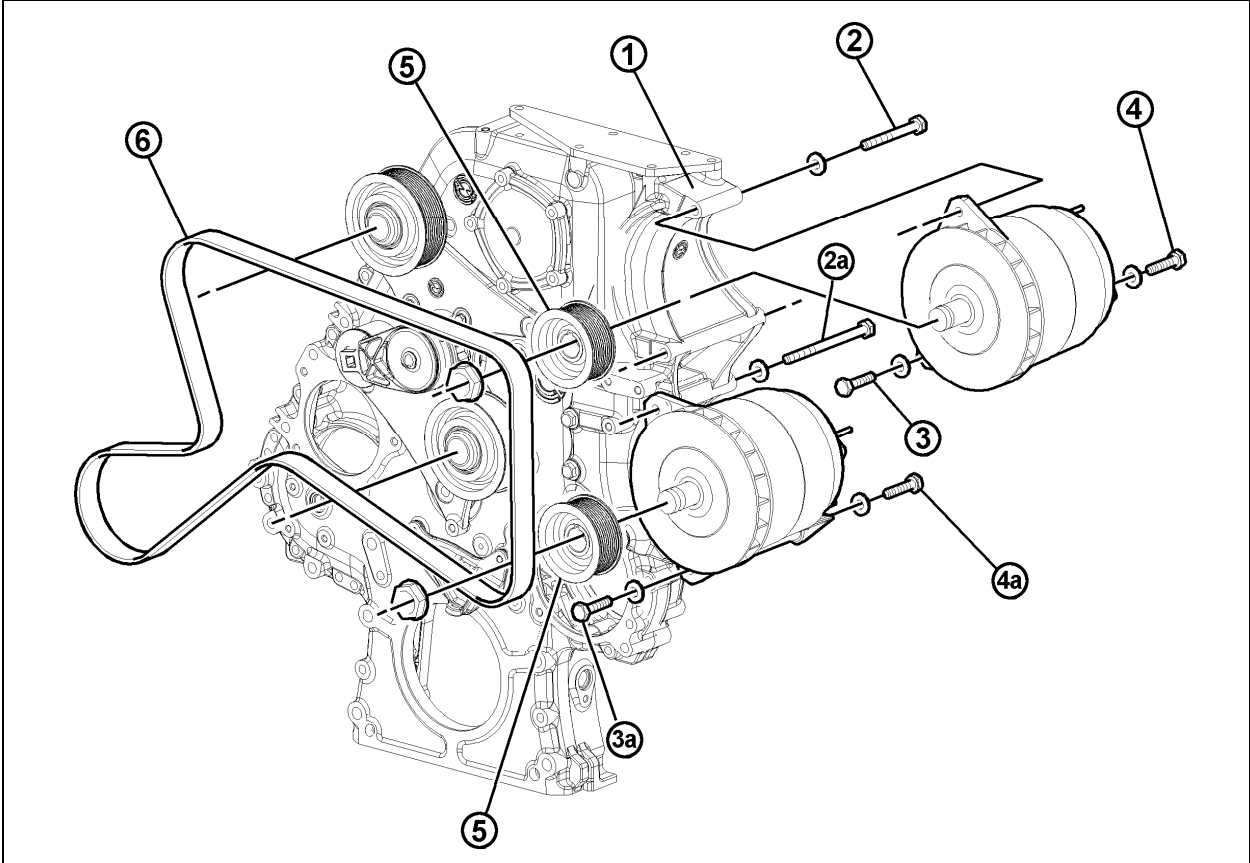
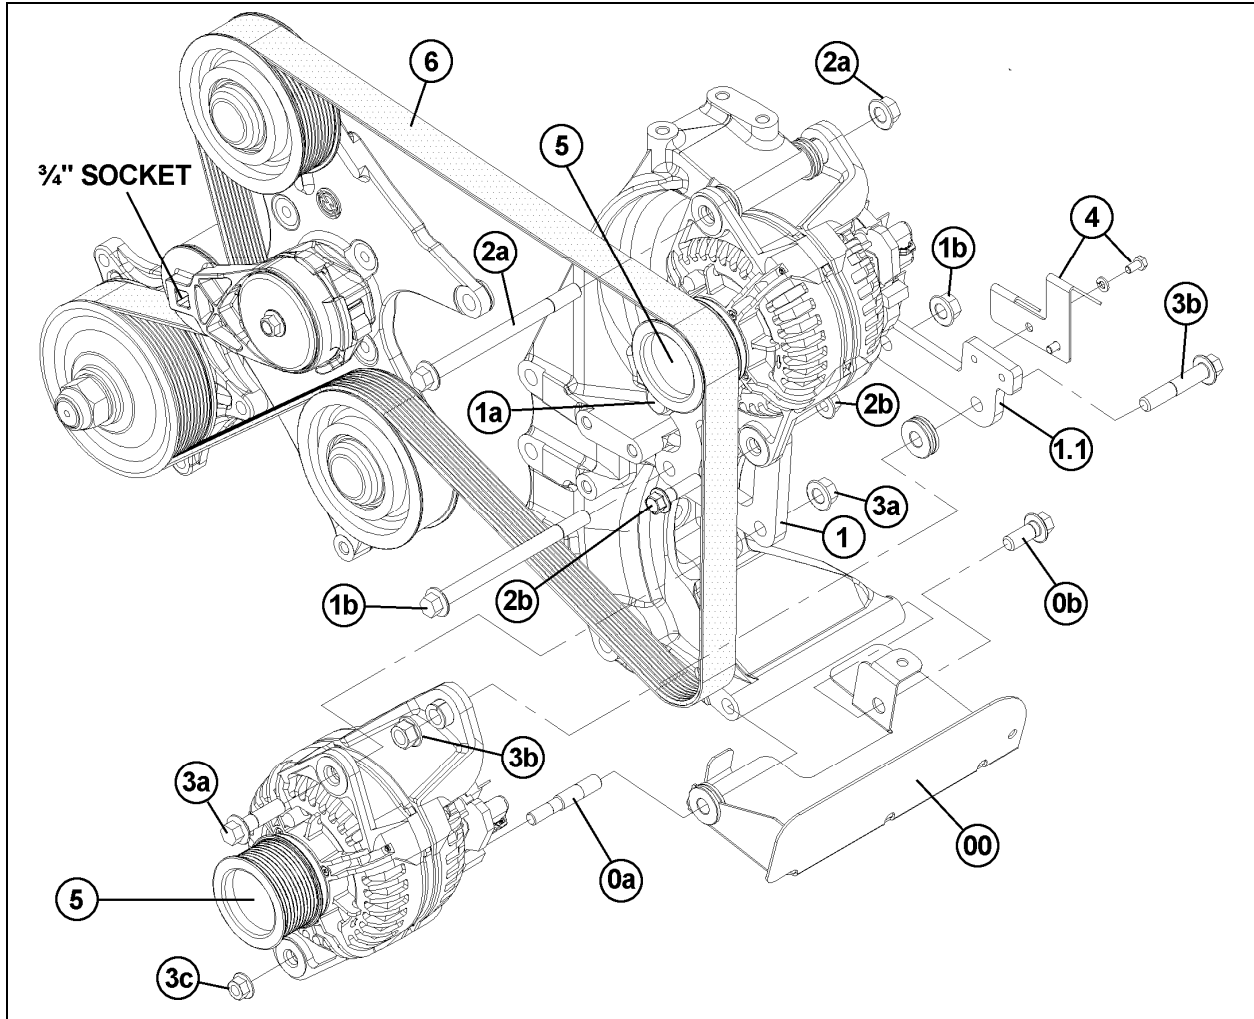

FIGURE 19: TWIN BOSCH ALTERNATORS INSTALLATION WITH DDC SERIES 60 ENGINE (VIP MOTORHOMES) 01077
FIGURE 25: TWIN BOSCH HD10 ALTERNATORS INSTALLATION (H3 SERIES COACHES)
1. Install alternator mounting bracket (1, figure 19) to the gear case. Use the four flanged phosphor alloy bolts on the pulley end of the
2. Bolt the upper alternator to the bracket using the 4 inch bolt at the top (2, fig 19) and two inch bolts at the lower mounting bosses (3 and 4, figure 19). Bolt the other alternator using the 6 inch bolt at the top (2a, fig 19) and two inch bolts at the lower mounting bosses (3a and 4a, figure 19);
3. On the drive shafts of both alternators, install key, pulley, spring washer and nut (5, figure 19);
6. Install alternators belt (6, figure 19).
1. Insert a ¾ inch socket drive into the automatic belt tensioner opening (fig. 19).
1. If necessary, reinstall protector (00, figure 25) to the alternator support assembly. Use the stud (0a, figure 19) and bolt (0b, figure 25) to fix the protector. Use some Loctite 262 red (688910) onto the threads.
2. If removed, reinstall ring bracket (1, figure 19) and L-shaped bracket (1.1, figure 25). Fix the ring bracket using bolt (1a, figure 25) and also bolt and nut (1b, figure 19) for the ring bracket and L-shaped bracket. Use some Loctite 262 red (688910) onto the threads.
3. Mount the upper alternator using bolt and nut (2a, figure 25), and also bolt and nut (2b, figure 25).
4. Mount the lower alternator using bolt and nut (3a, figure 25), and also bolt and nut (3b, figure 25). Fix the lower portion of the alternator using nut (3c, figure 25).
5. Mount the cable bracket (4, figure 25) and fix using bolts (4, figure 25).
6. Mount pulleys (5, figure 25) onto alternators.
7. Install alternators belt (6, figure 25).
4. Insert a ¾" socket drive into the automatic belt tensioner opening (Fig. 25).